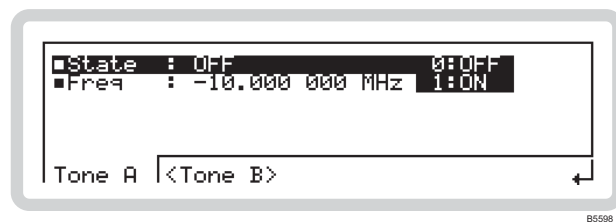

Fig. 3-44 Tones modulation
- 2 Press **SIG GEN** to show the main screen, and touch the **IQ** soft box to select the function. Touch **Tones** and press **Enter** to view the Tones menu (Fig. 3-44).